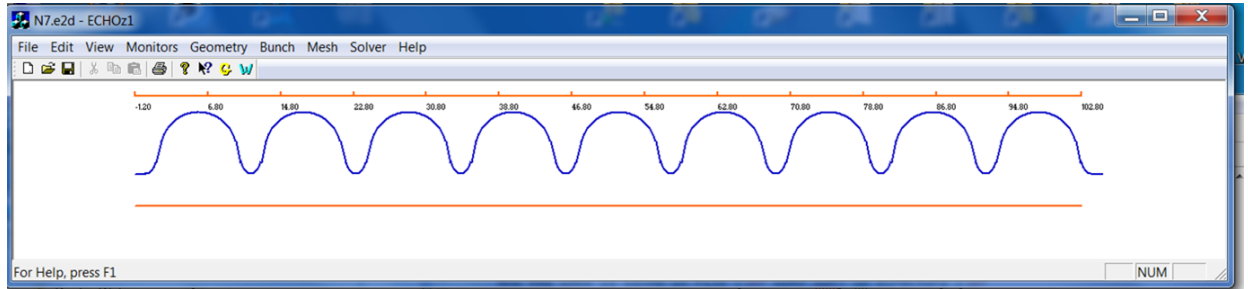

Figure 2.6: Geometry of TESLA cavity.
- Go to menu "File/Open" and navigate to directory **Examples/ N10_TESLACavityLong/ECHOz1**. Open the input file **N10.e2d**. You should see the geometry shown in Fig. 2.6.